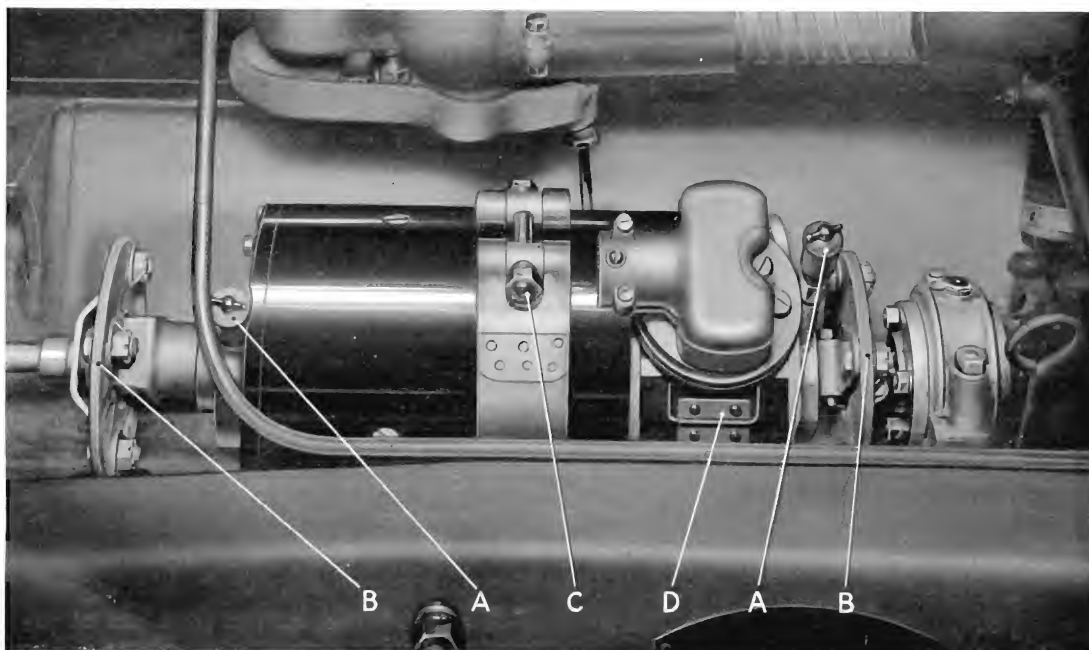

Fig. 1.
In all cases the dynamo bearings are lubricated by means of grease cups (A), Fig. 1. Give the greasers a turn once a week and replenish with high-melting-point grease when empty. **Do not use oil.**
The dynamo is mounted on a cradle at the rear side of the engine and secured by a strap; it can readily be removed by disconnecting the flexible couplings (B), Fig. 1, and removing the bolt (C) from the strap. On certain oil-engine machines the fuel pump must first be removed. The dynamo is a plain shunt-wound machine having two brushes only, the regulator controlling the current according to battery requirements.
The commutator and brushes can be inspected by removing the cover (D), Fig. 1.